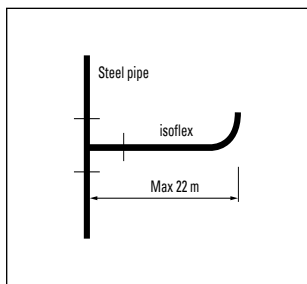

fig. 1
- When connecting to a straight branch, the maximum length of the isoflex pipe must not exceed the limit shown in fig. 1.